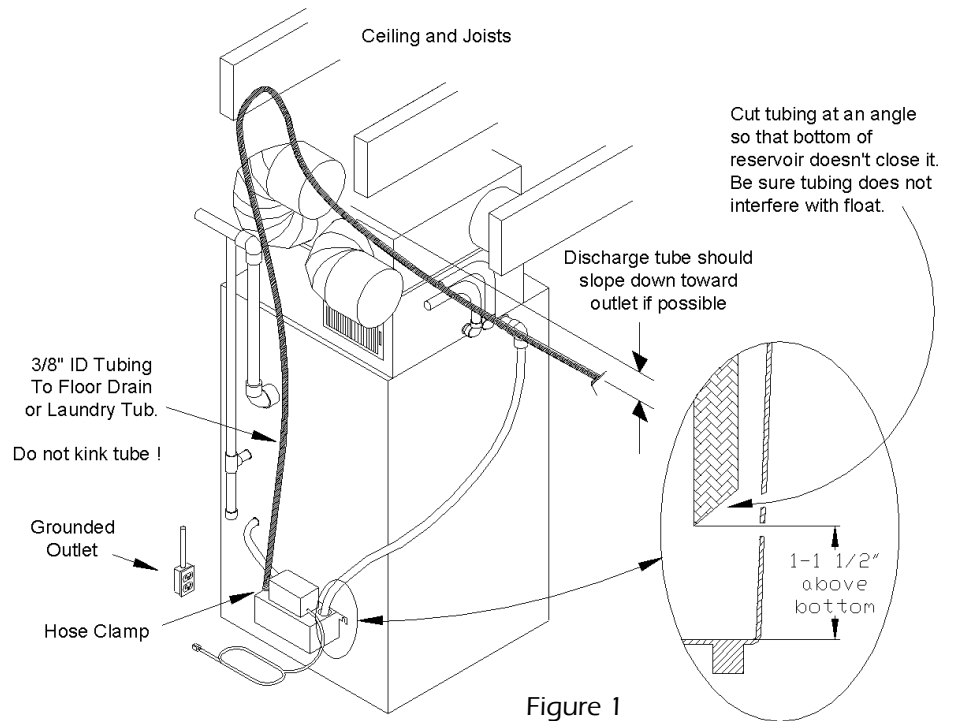

Figure 1
PIPING—Run flexible tubing or pipe from the evaporator and furnace to the pump. Insert the pipe into the drain inlet hole. Make sure the pipe does not interfere with the float. Cut an angle on the inlet pipe so that it doesn't close off against the bottom of the pump. See Figure 1 – exploded detail.
Connect 3/8" NPT piping to the discharge port. Extend this piping or tubing straight up as high as necessary. (Do not extend this tubing past the head/GPH of the pump installed). Do not kink the tubing, as this will block the flow. From this high point, slope the discharge tubing downward to a point above the drain, then turn down and extend to a point below or level with the bottom of the condensate pump. If it is not possible to slope the discharge tubing downwards, make an inverted "U" trap directly above the pump at the highest point. (Figure 1) A check valve is required and should be of a soft seat swing check design. A spring loaded ball check is permissible if the lift is one half of the pump shut off level and the spring pressure is equal to, or less than one (1) psi.